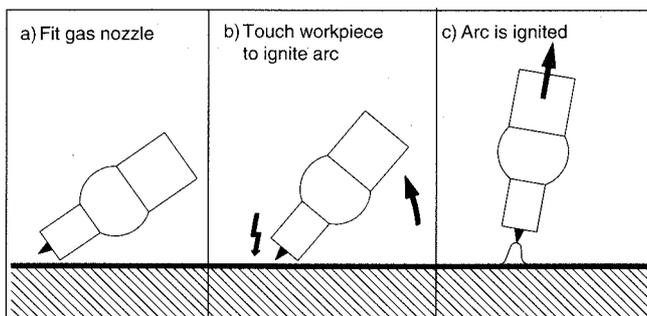

Fig. 24: Ignition through touching the workpiece
- Make sure the welding current is switched off. Place the electrode on the weld at the point where the arc is to be ignited, tilt the torch backwards until the edge of the gas nozzle is resting on the workpiece, leaving a gap of between 2 and 3 mm between the tip of the electrode and the workpiece (Fig. 24-a).
- Resting the torch on the edge of the nozzle, gradually tilt it upwards until the tip of the electrode touches the workpiece (Fig. 24-b).
- The arc ignites when the torch is raised and moved into the normal position (Fig. 24-c).